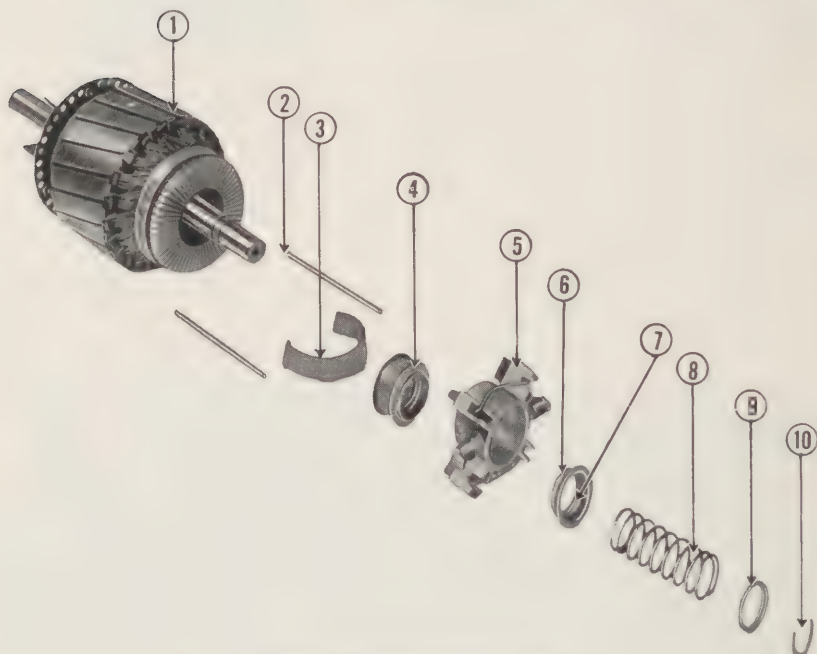
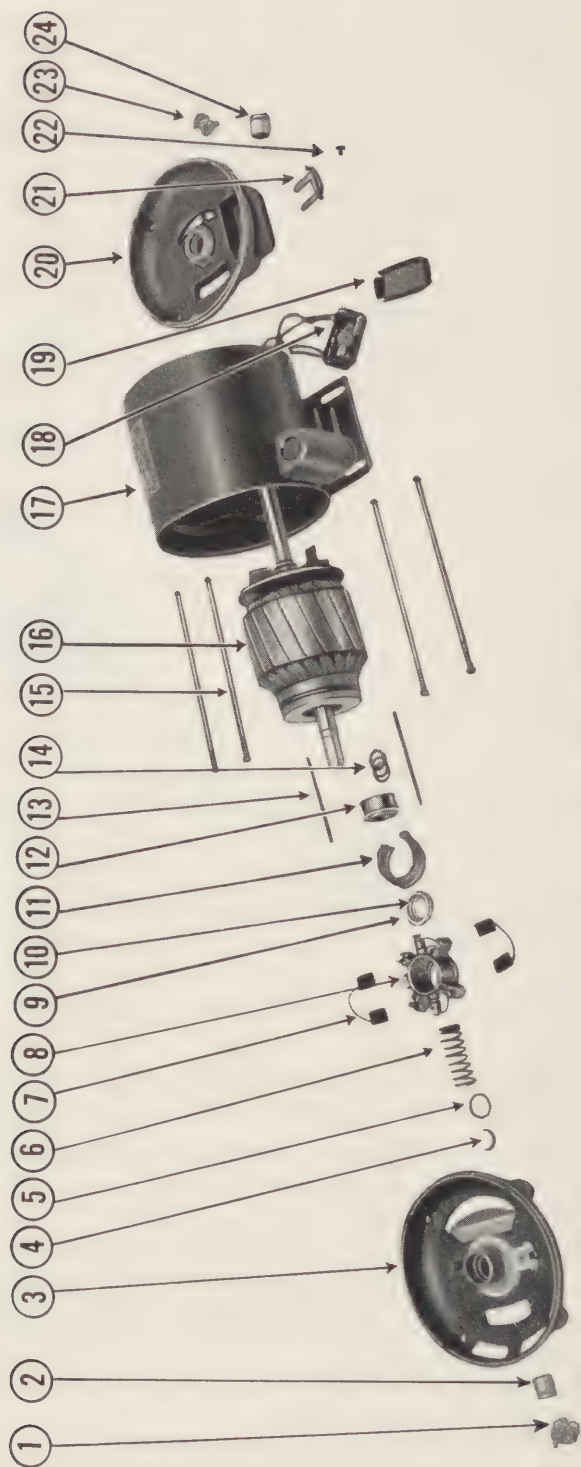

Figure 67. Armature disassembled.
Figure 68. Electric motor disassembled.
- (8) Tape the soldered connections and reinstall the junction box cover.
- (9) Connect the extension cord plug to the source of supply.
**n. Disassembling the Motor for Repairs.** To disassemble the motor for repairs proceed as follows (fig 68):
- (1) Remove the motor for repair. (See par 58 l.)
- (2) Remove the 4 end plate bolts and nuts (item 15) and slide the bolts from the motor frame.
- (3) Remove the front end plate (item 3) by tapping the flange of the plate until it is free and can be removed from the shaft.
- (4) Grasp the shaft and pull the armature forward until it is clear of the field coils and motor frame.
- (5) Stand the armature on end (fig 67) and with a screw driver depress the governor spring retainer (item 9) and remove the retainer spring washer (item 10) governor spring retainer (item 9) starting spring (item 8) retainer spring extension (item 6) and retainer spring washer (item 7).
- (6) Remove the brush holder assembly (item 5) and turn the armature (item 1) with the commutator end down permitting the stator spring retainer (item 4) short-circuit starting necklace (item 3) and governor push rods (item 2) to drop out.
- (7) Remove the pulley end plate (fig 68, item 20) by tapping the flange until it is free from the motor frame.
- (8) Remove screw (fig 68, item 22) retaining overload protector in the recess of the plate.
- (9) Remove tape and fibre cover exposing 4 soldered terminals. (NOTATION MUST BE MADE OF COLOR CODE OF CABLES AND THEIR RESPECTIVE ATTACHED POSITIONS.) Unsolder terminals and remove wire.
**o. Reassembling the Motor.** Before reassembling the motor all parts should be thoroughly cleaned and inspected. Parts found to be worn must be replaced. To reassemble the motor proceed as follows (fig 67).
- (1) Stand armature (item 1) on pulley end of shaft and drop the 2 governor push rods (item 2) into position.
- (2) Form the short-circuit starting necklace (item 3) around the stator spring retainer (item 4) and place it over the shaft into position.
- (3) Place brush holder assembly (item 5) over shaft and insert the retainer spring extension (item 6) retainer spring washer (item 7) starting spring (item 8) and governor spring retainer (item 9) into the brush holder assembly.
- (4) With a screw driver compress the governor spring retainer (item 9) and lock all parts in place by forcing the retainer spring washer (item 10) into the groove of the shaft provided for this purpose.
- (5) Reassemble the overload protector (fig 68, item 18) by resoldering the leads to the terminals in accordance with the color code.
- (6) Retape fibre cover into position.
- (7) Reassemble overload protector in the recess of the end plate and secure with clamp and screw (fig 68, items 21 and 22).
- (8) Reassemble pulley end plate (fig 68, item 20) on motor frame and slide end plate bolts (fig 68, item 15) through the end plate and motor frame. Should the end plate fail to aline, tap lightly around the flange until it fits snugly against the motor frame.
- (9) Slide the armature into the motor frame by placing the pulley end of the shaft into the pulley end plate. Should difficulty be experienced in sliding the shaft through the end plate bearing, remove the armature and with your finger work the oil wicking back to the oil well.
- (10) Replace the front end plate (fig 68, item 3) over the shaft by guiding the index plate through the slot in the brush holder.
- (11) Secure the end plate to the motor frame with the end plate nuts. Tighten the nuts uniformly by alternating from side to side. While tightening the nuts inspect the free movement of the armature at intervals to assure correct alinement. Should the end plate fail to aline by tightening the bolts, tap lightly around the flanges of both end plates until they fit against the motor frame.